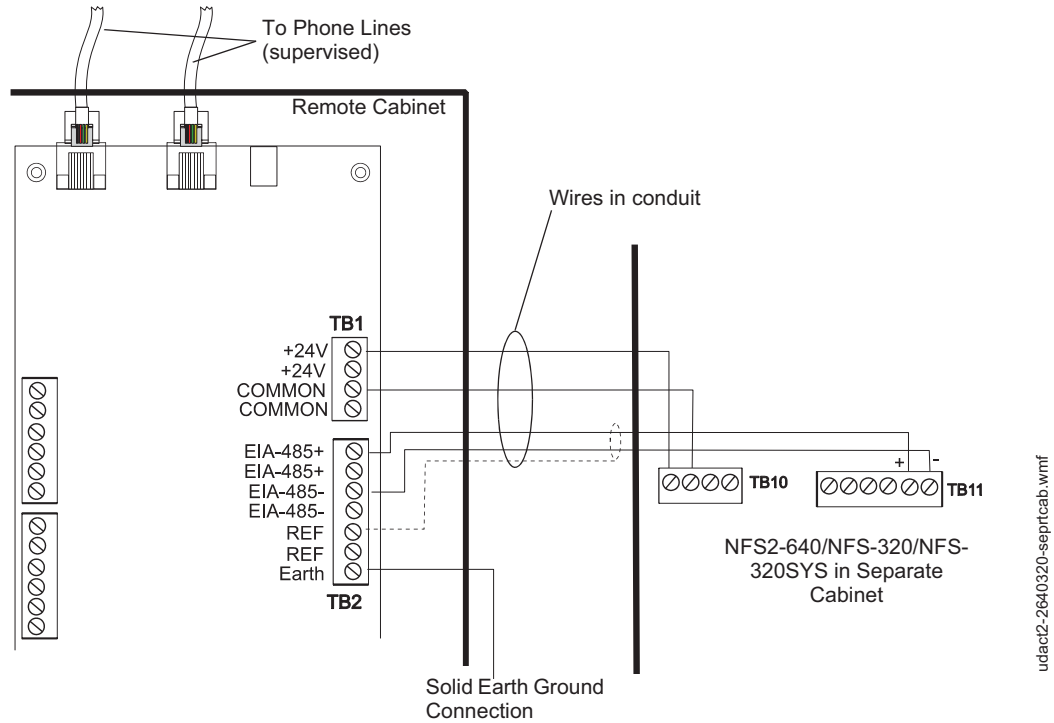

Figure A.4 UDACT-2 and NFS2-640/NFS-320/NFS-320SYS in Separate Cabinets
Refer to Figures A.4 through A.7.
1. Recommended wire is 12 AWG (3.25mm²) to 18 AWG (0.75mm²), twisted pair, shielded cable. Connect only one end of shield: a) shield may be connected to cabinet (earth ground) at fire alarm panel, or b) shield may be connected to TB1 Terminal 5 (Shield) at UDACT-2 as shown in Figure A.4.